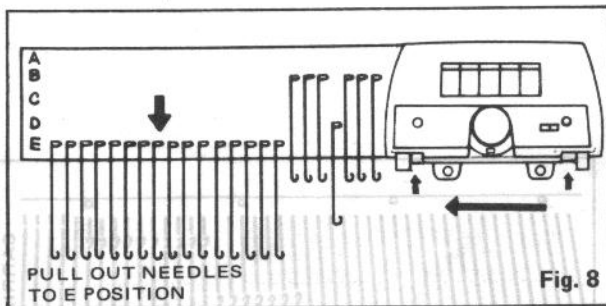

Fig. 8
2. Select the needles according to the relative knitting diagram, and knit one row. (Fig. 8)